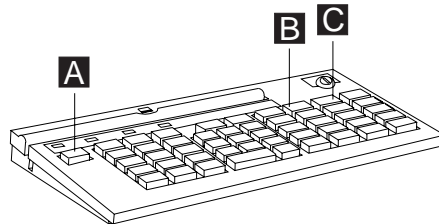

Figure 94. Example of S1 and S2 function keys
1. Press and hold the **Ctrl** key ( **A** in Figure 94).
If no Ctrl key is present, you need only press the S1 or S2 key. Figure 94 illustrates the keys on a typical keyboard.